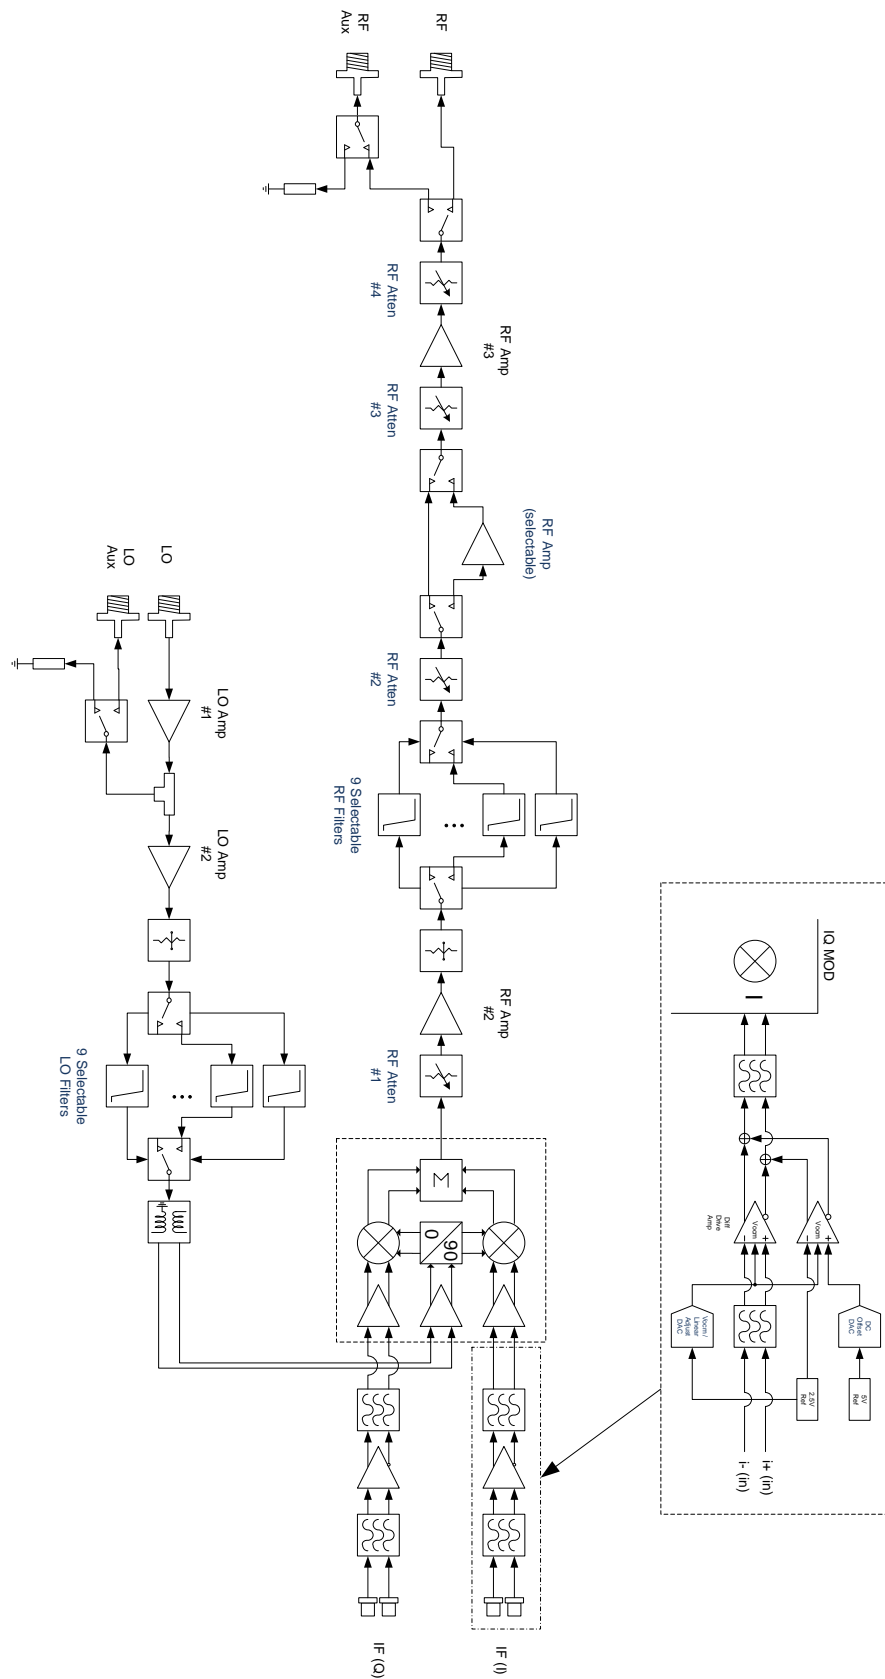

Figure 3. Simplified SC5412A block diagram.
The SC5412A is a single-stage, direct conversion Inphase-Quadrature (IQ) modulator. The modulator operates in the 400 MHz to 6 GHz RF range with a typical 3 dB IQ IF bandwidth of 320 MHz. IF signals are conditioned by input differential drivers prior to the IQ mixers. These differential drivers adjust the DC level and minimize the DC offset effects on the modulated RF signal. The RF output stage has adjustable gain to allow the user to adjust the signal levels, and to also to optimize for signal dynamic range. The SC5412A has the necessary RF amplifiers, attenuators and IF amplifiers to give the user optimal control of the device over the entire frequency range. Figure 3 shows a simplified block diagram of the SC5412A, showing only the signal conditioning components critical for the following discussion. The following sections provide more in-depth discussion on how to optimize the converter for linearity and signal-noise dynamic range. Power supply generation and regulation, and digital control functions are not covered. Should the user require more information than what is provided in this manual, please contact SignalCore.
From Figure 3, the IF signals are first filtered by a 160 MHz filter, and then passed to the input differential drivers before being driven into the IQ mixers. The DC characteristics of the output of each differential driver are controlled by two 14 bit DACs. One DAC controls the driver common output voltage, while a separate DAC controls the DC offset of the differential output pair. The common output voltage has a range from 0V to 2.5V (DAC code 0 to 16383), and a differential voltage range of -50 mV to +50 mV (DAC code 0 to 16383, mid code is 0V). The common output voltage controls the bias to the mixer inputs, which affects the mixer linearity. The user may need to adjust this voltage to optimize linearity (IP3 and harmonics), which is dependent on IF input power level and the operating frequency. A typical bias voltage may range between 1 V and 3 V.